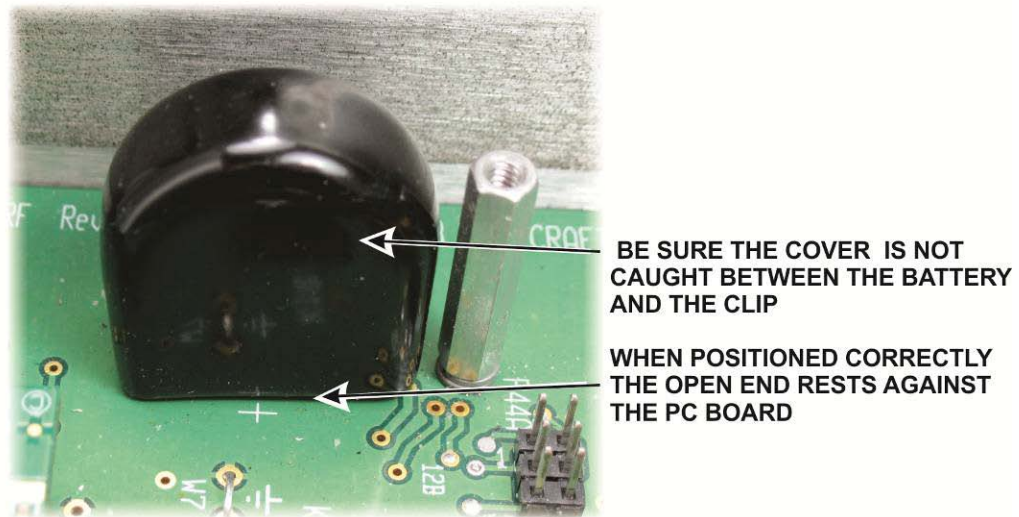

Figure 43. Installing the Battery Cover (K3 only).
- Skip this step if you have a K3S (not K3) transceiver. The K3S uses a different type of battery holder that lies flat on the pc board and does not use an insulating cover. Place the battery cover on BT1 on the K3 RF board as shown in Figure 43. The cover is important to ensure the positive edge of the battery does not touch the bottom of the KRX3A module enclosure.
Check to ensure the battery cover is in place protecting the top of the battery from contact with the KRX3A enclosure (see Figure 43). The top edge of the battery is the positive terminal, and touching the enclosure during installation will short-circuit the battery.